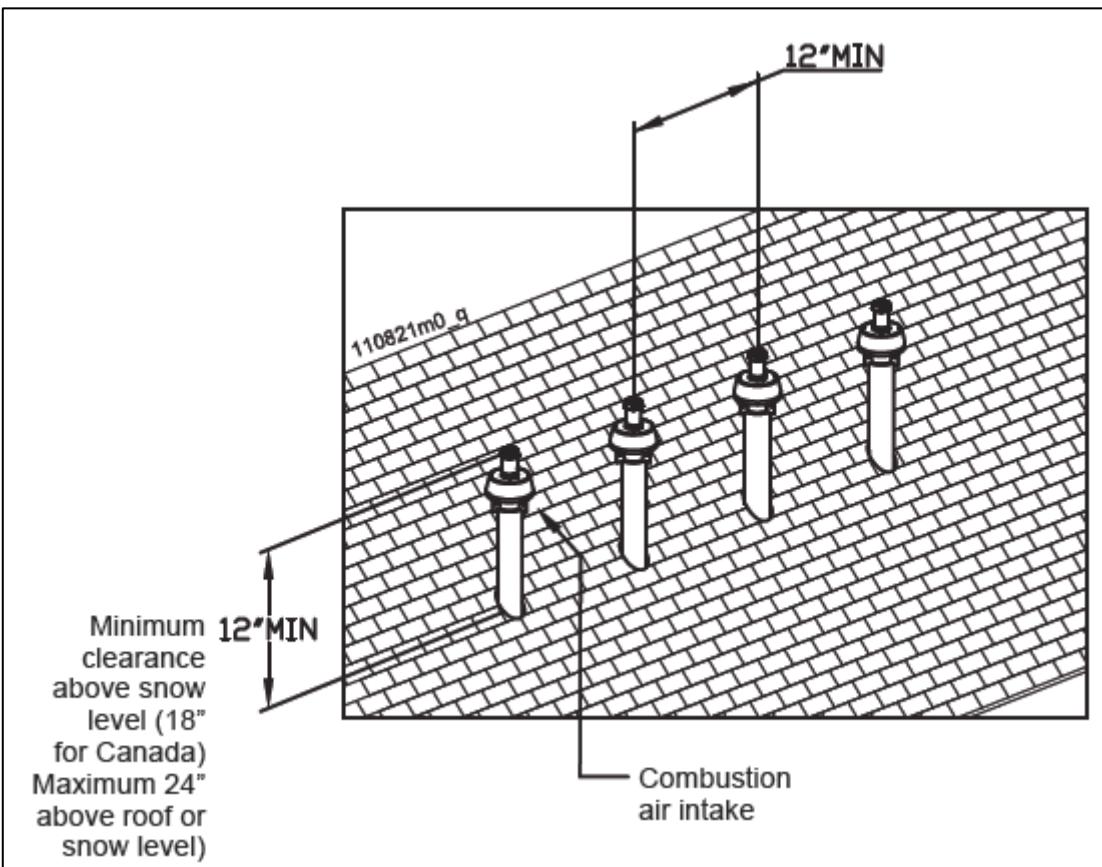

Figure 9-22
When two (2) or more direct vent appliances are vented near each other, each appliance must be individually vented (see Figure 9-22). NEVER common vent or breach vent this appliance. When two (2) or more direct vent appliances are vented near each other, two (2) vent terminations may be installed as shown in Figure 9-22. It is important that vent terminations be installed as shown to avoid recirculation of flue gases.